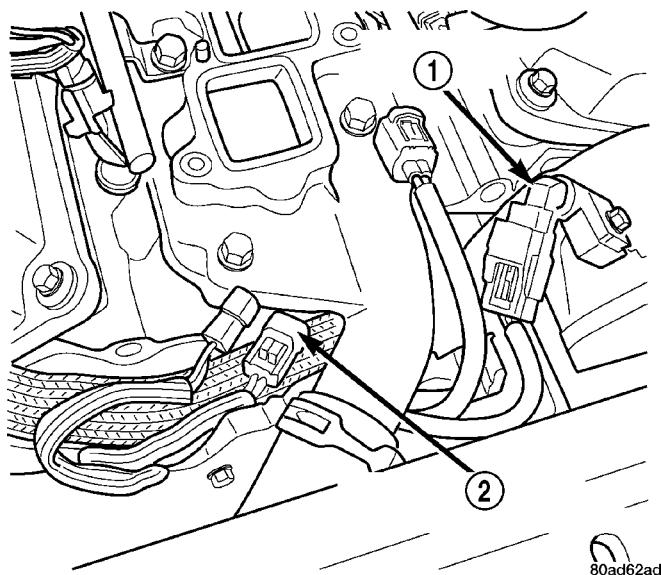

Fig. 6 ENGINE COOLANT TEMPERATURE SENSOR - 3.5L
The engine coolant temperature sensor threads into the coolant system (Fig. 5) or (Fig. 6).
- (1) Disconnect negative cable from remote jumper terminal.
- (2) With the engine cold, disconnect coolant sensor electrical connector (Fig. 5) or (Fig. 6).
- (3) Remove sensor.
- (1) Install engine coolant temperature sensor (Fig. 5) or (Fig. 6). Tighten sensor to 28 N·m (20 ft. lbs.) torque.
- (2) Attach electrical connector to sensor.
- (3) Connect negative cable to remote jumper terminal.